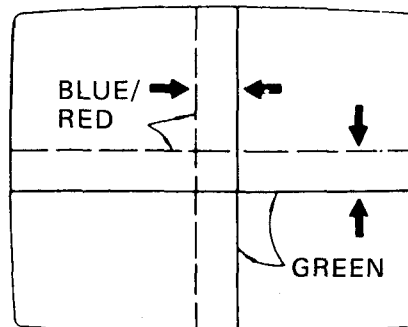

Figure 16. Static (Center) Convergence
- b. After completing red and blue center convergence, locate the pair of six-pole magnet rings. Rotate the individual rings (change spacing between tabs) to converge the vertical red and blue (magenta) and green lines. Rotate the pair of rings (maintaining spacing between tabs) to converge the horizontal red and blue (magenta) and green lines. Refer to Figure 16.